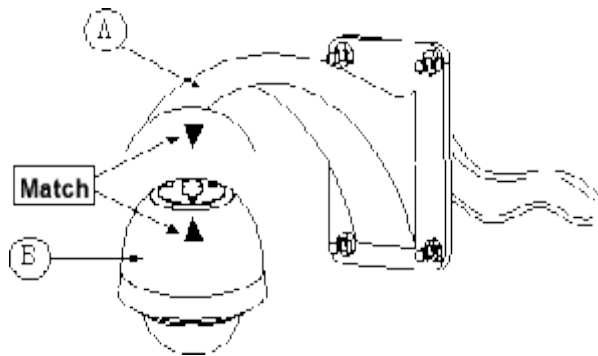

Figure 9
ii. Aim the “▼” of the bracket (A) to the “▲” of the dome (B) as Figure 9.